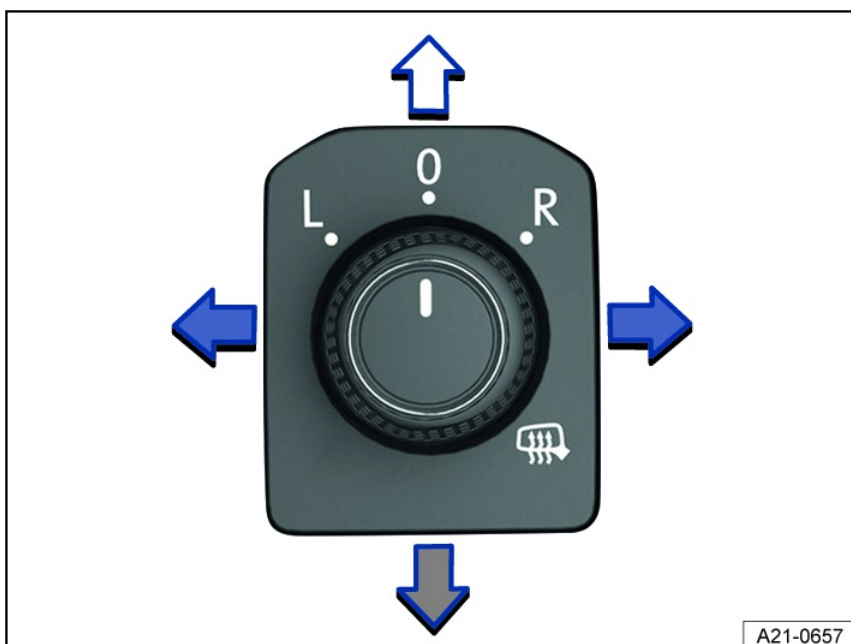

Fig. 86 In the driver door: knob for the outside mirrors.
2. Turn the knob in the driver door to the preferred symbol fig. 86.